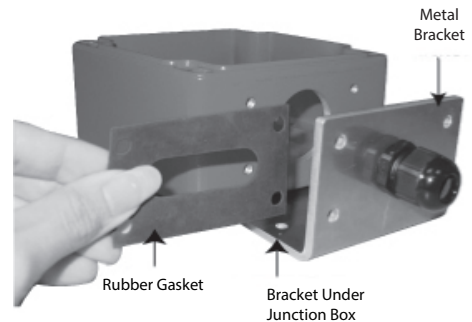
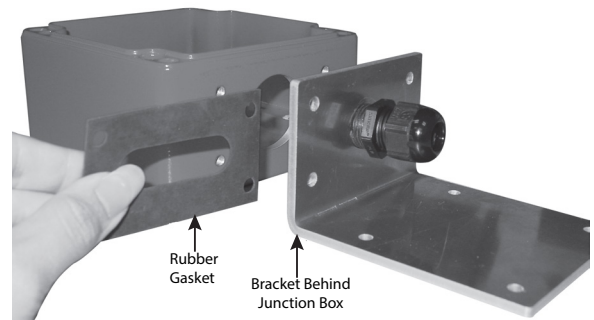

Figure 1: Mounting bracket **under** junction box
Figure 2: Mounting bracket **behind** junction box
1. Mount the metal bracket on the junction box one of two ways: under the junction box (*Figure 1*) or behind the junction box (*Figure 2*).